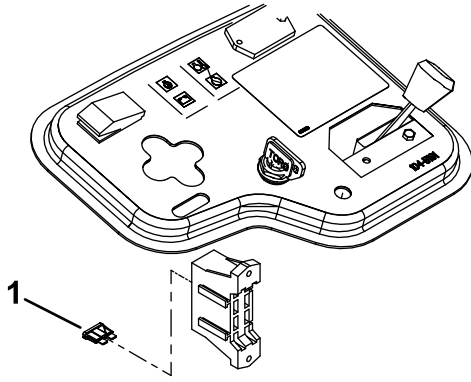

Figure 7
9. Install the 10 amp fuse into the open receptacle in the fuse block (Figure 7).